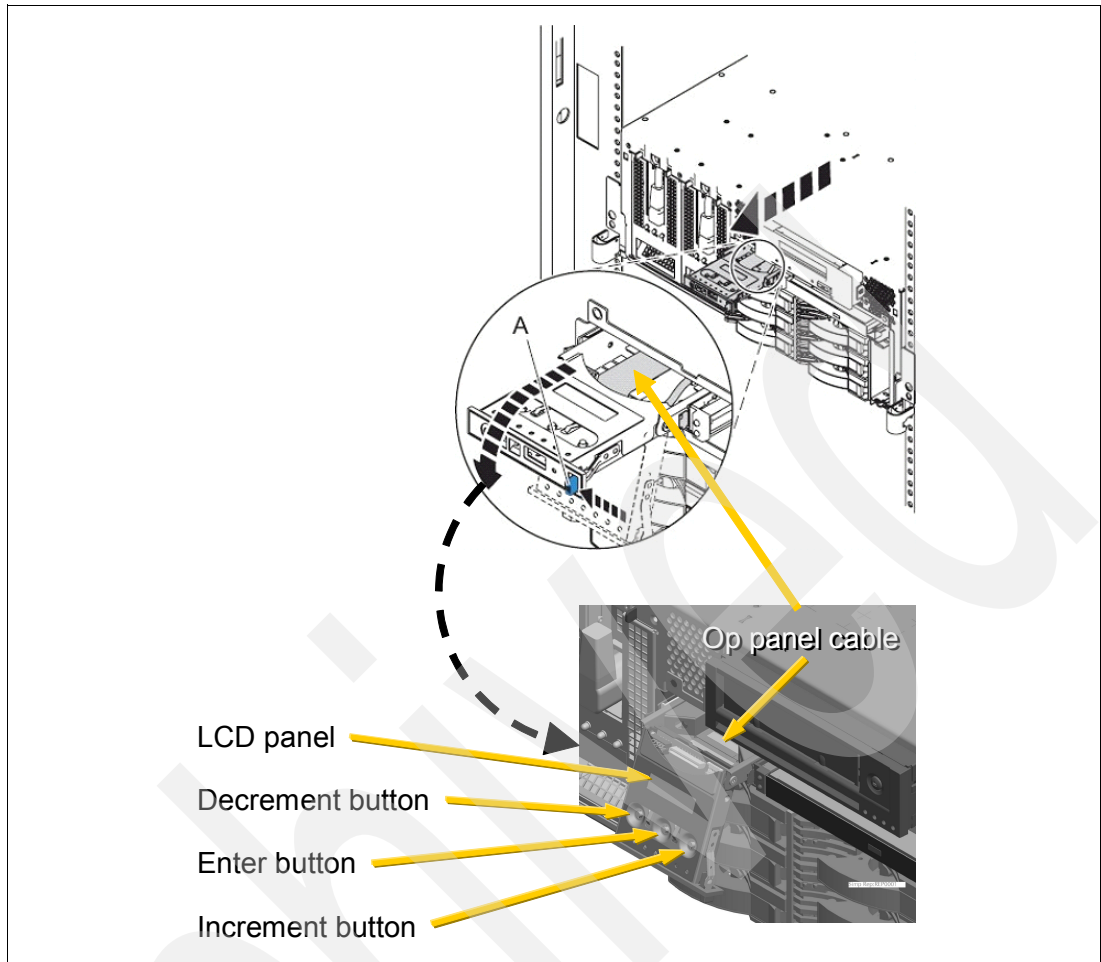

Figure 2-37 Operator control panel physical details
The service processor provides an interface to the control panel (also referred to as the operator panel or simply the *Ops* panel in various sets of documentation) that displays server status and can be used to perform manual diagnostic activities and system start and stop operations without an HMC. Figure 2-37 on page 123 shows the control panel with blue tab (A) pushed to disengage the panel from its normal “display only” position and pivoted into place for use. To use the control panel you must disengage it from its normal display only resting position within the system unit.